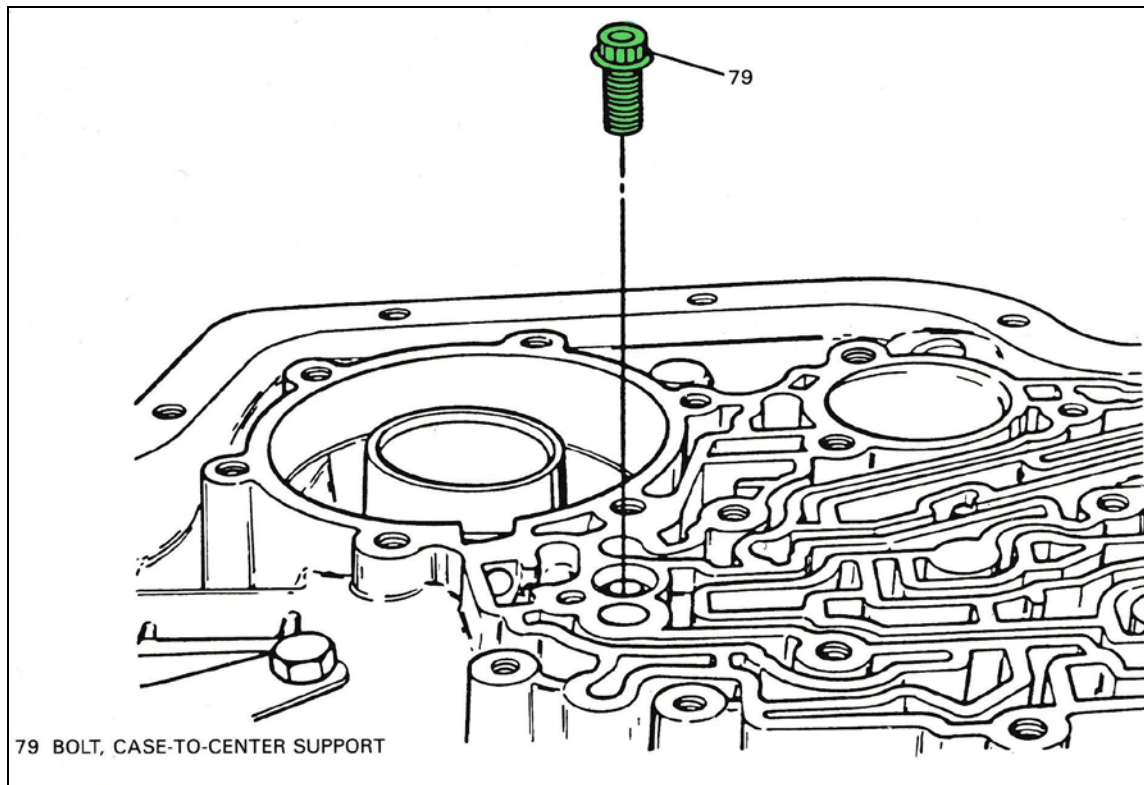

FIGURE 2-40
The center support is retained to the transmission case with the case to center support bolt (79). See Figure 2-40.